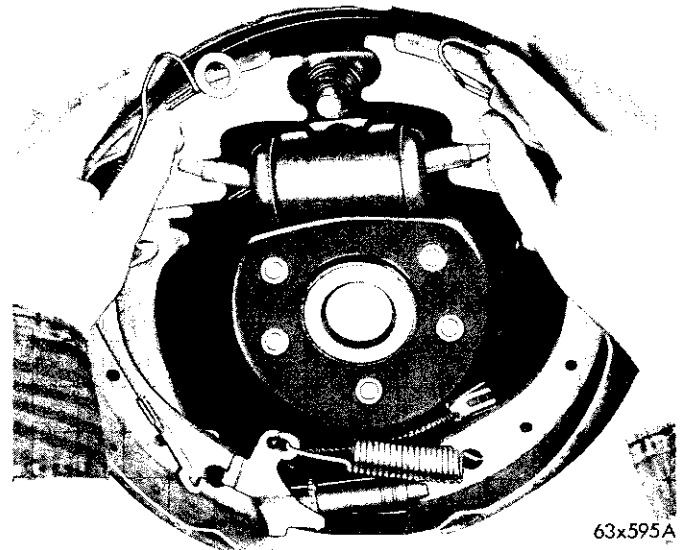

Fig. 8—Removing or Installing the Brake Shoes
(3) Overlap the anchor ends of the primary and the secondary brake shoes and install the adjusting spring and lever.
(4) Spread the anchor ends of the brake shoes to maintain the adjusting lever and spring in position.
(5) Holding the brake shoes in their relative position, place the brake shoe assembly on the support and over the anchor pin (Fig. 8).
(6) Install the retainer nails, cups, springs and retainers.
(7) Install the anchor pin plate.
(8) Install the cable guide in the secondary shoe and place the "eye" of the adjusting cable over the anchor pin.
(9) Using Tool C-3785 install the return spring into the primary shoe.
(10) Install the secondary return spring.
(11) Place the adjusting cable over the guide and engage the hook of the cable into the adjusting lever.
(12) Lubricate the wheel bearings and install the brake drum and adjust the wheel bearing to the proper preload.
(13) Adjust the brakes as described previously.
(5) Overlap the anchor ends of the primary and the secondary brake shoes and install the adjusting spring and lever.
(6) Holding the brake shoes in their relative position and engage the parking brake cable into the parking brake lever.
(7) Install the parking brake strut and spring between the parking brake lever and the primary shoe (Fig. 8).
(8) Place the brake shoes on the support and install the retainer nails, springs and retainers.
(9) Install the anchor pin plate.
(10) Install the "eye" of the adjusting cable over the anchor pin and install the return spring between the primary shoe and the anchor pin.
(11) Install the cable guide in the secondary shoe then install the secondary return spring.
(12) Place the adjusting cable in the groove of the cable guide and engage the hook of the cable into the adjusting lever.
(13) Install the brake drum and retaining clips. Install the wheel and tire assembly.
(14) Adjust the brakes as described previously.